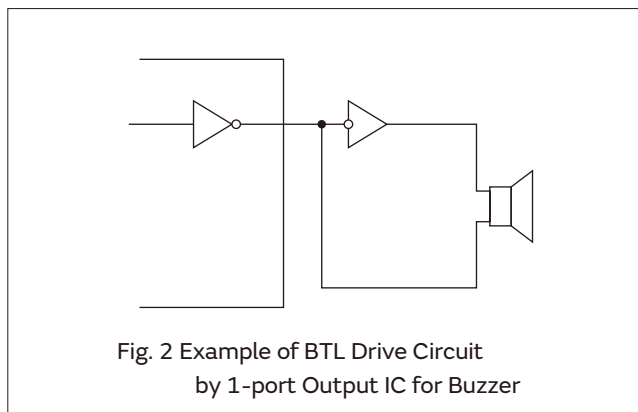

Fig. 2 Example of BTL Drive Circuit
- (2) In a case that is driven by IC directly like as Fig. 2, input voltage of Piezoelectric sound components should be twice as high because of the BTL (Bridge Tied Load) drive circuit, which includes an inverter.
When the piezoelectric diaphragm oscillates freely in air, the node does not move as shown in Fig. 1. With this point held with a measuring terminal, the resonant frequency ( $f_0$ ) and resonant impedance ( $R_0$ ) are measured in the constant-current circuit as shown in Fig. 2.